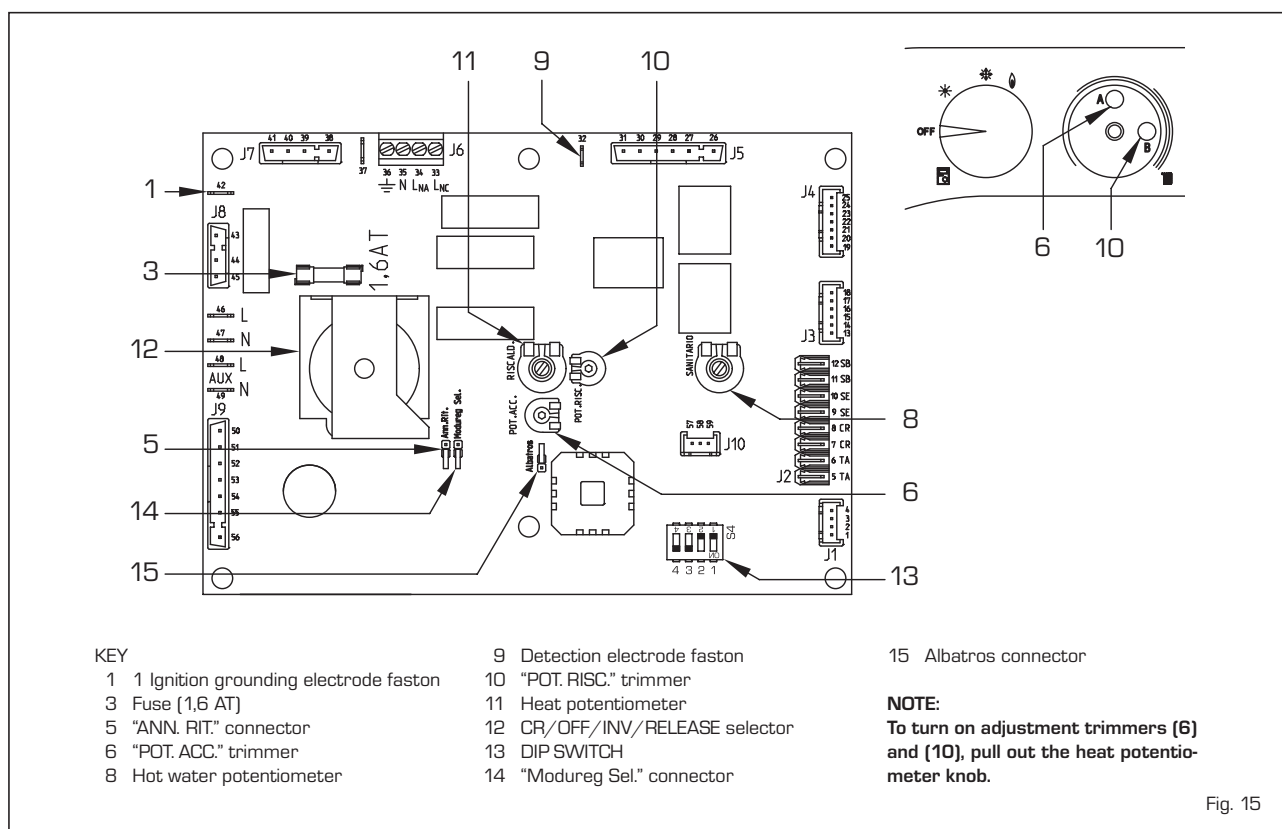

Fig. 15
- **"POT. RISC." trimmer** (10 fig. 15)
- **"POT. ACC." trimmer** (6 fig. 15)
- **"ANN. RIT." connector** (5 fig. 15)
- **DIP SWITCH** (13 fig. 15)
- **"Modureg Sel." connector** (14 fig. 15)
- **"Albatros" connector** (15 fig. 15)
58 kW factory setting, use a screwdriver on the heat power trimmer (10 fig. 15). To increase operating pressure, rotate the trimmer clockwise, to reduce it, rotate the trimmer counter-clockwise.